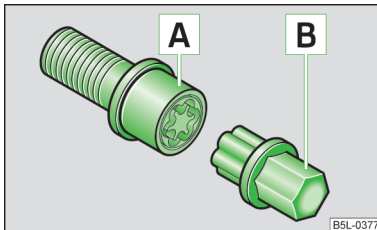

Fig. 113
The anti-theft wheel bolts protect the wheels from theft. These can only be loosened or tightened with the use of adapter **B** » Fig. 113.
- Insert adapter **B** » Fig. 113 with the toothed side all the way into the inner teeth in the head of the anti-theft wheel bolts **A**.